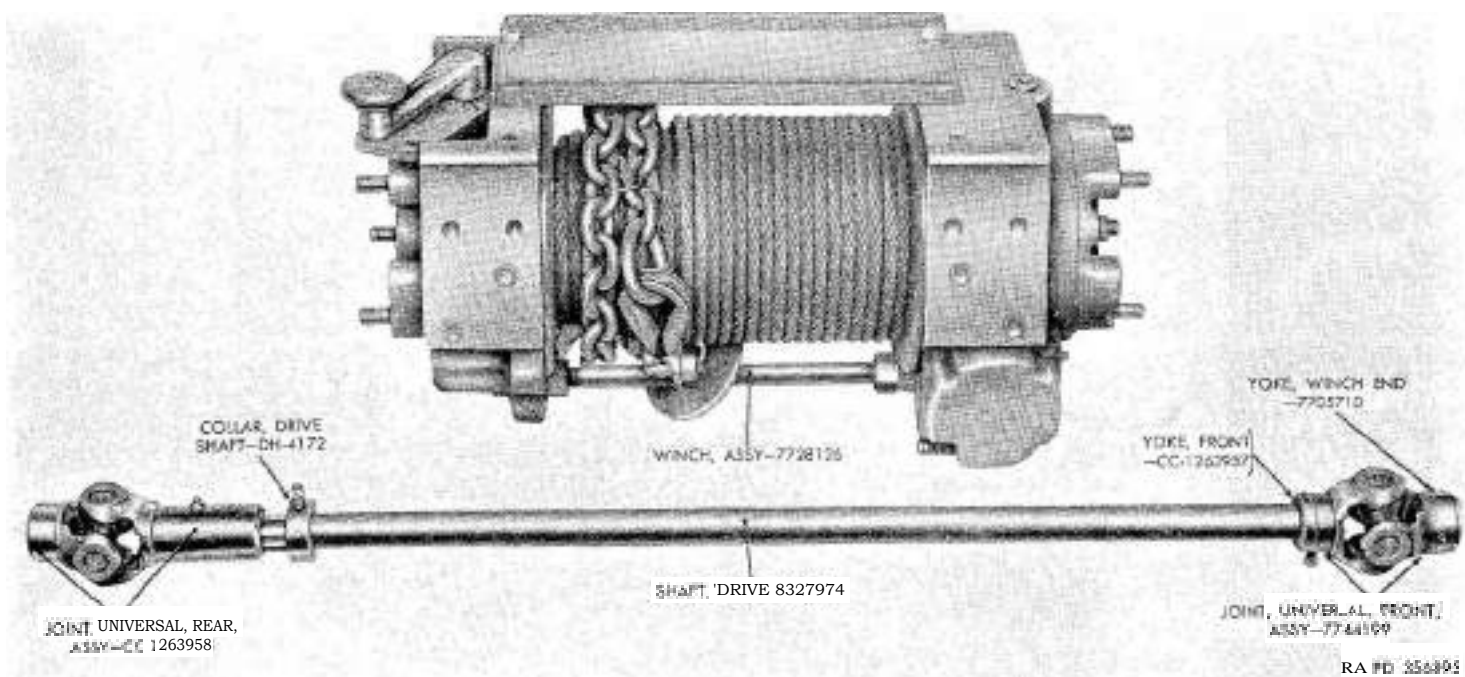

Figure 222. Winch and drive shaft assemblies.
a. Winch Assembly (fig. 222) . The winch assembly is a worm drive assembly and is mounted at the front end of the frame side rails. It is operated by power transmitted through the transmission to the power-take-off and drive shaft.
b. Drive Shaft Assembly (fig. 222). The drive shaft assembly is a solid steel shaft and is equipped with two universal joints and a sliding yoke.
The winch and drive shaft assemblies (fig. 222) are divided into four subassemblies : clutch housing assembly, cable drum assembly,